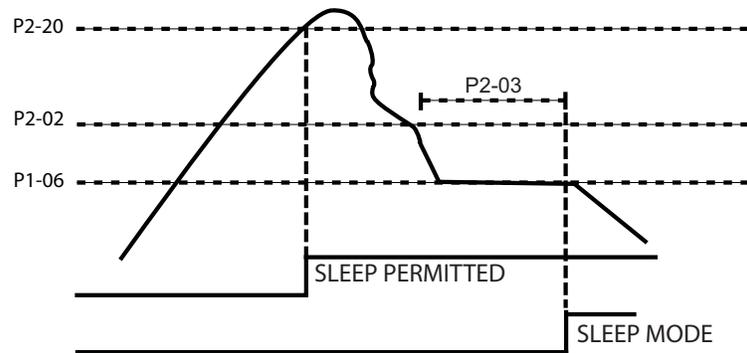

Figure 124.
- When P2-20 is greater than P2-02, the output frequency must be greater than Alternative Sleep Activation Level (P2-20). See Figure 124.